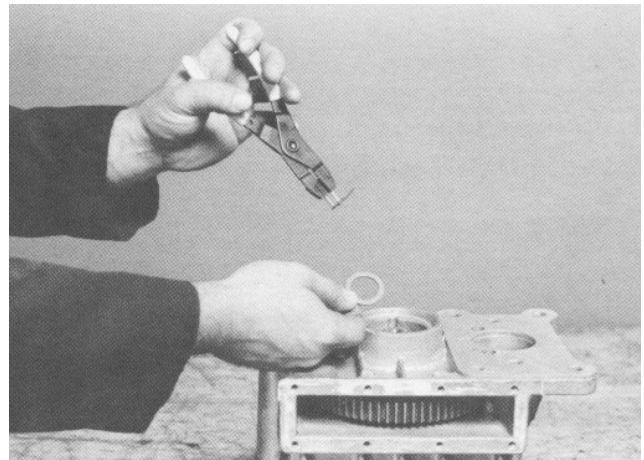

Figure 44
10. Install the shim and snap ring onto the end of the pinion shaft. Use the thickest shim possible which will permit installation of the snap ring (Fig. 44). Limit the end play to 0.000 - 0.005 inch (0.000 - 0.127 mm).